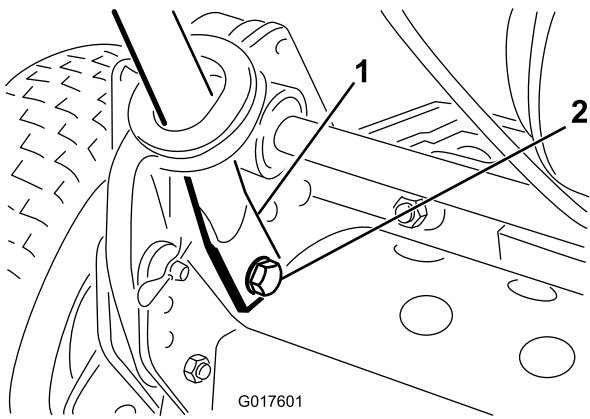

Figure 3
4. Squeeze the handle ends inward and install them on the mounting pins (Figure 3).
5. Secure the handle ends to the mounting pins with the bolts, washers, and lockwashers provided (Figure 3).
6. Secure the bottom of the handle arms to each side of the mower with the bolts and locknuts previously removed (Figure 3). Ensure that you install the bushings in the handle arm mounting holes.
7. Secure the handle arms to the rear of the frame with the hairpin cotters and ring pins previously removed (Figure 3).